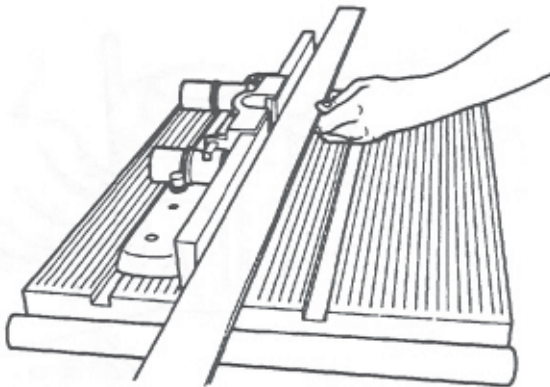

Figure D-57
- Use a straightedge to set the fence boards parallel with each other, as shown in Figure D-57.